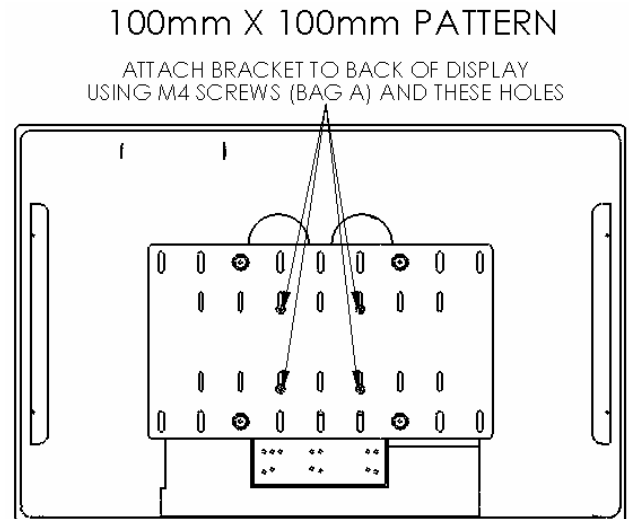

Figure 5. Display with 100mm x 100mm Hole Pattern
2. Attach the MSP-MSBTW1 (10) using the hole-pattern on the back of your display as shown in Figure 5.